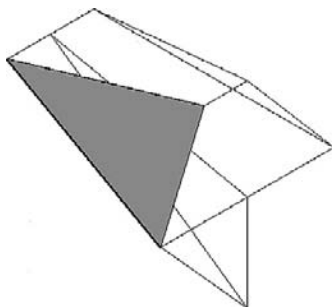
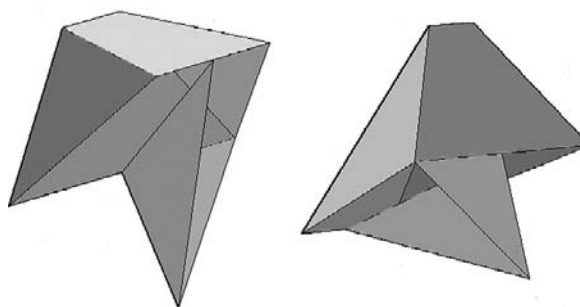

FIGURE 27.21
FIGURE 27.22
Step 3. After three or four clicks (depending on which facet you chose to do first) you should be able to get what is seen in Figure 27.21. Continue covering the other faces, and add color, to get what is shown in Figure 27.22 (viewed from several angles).